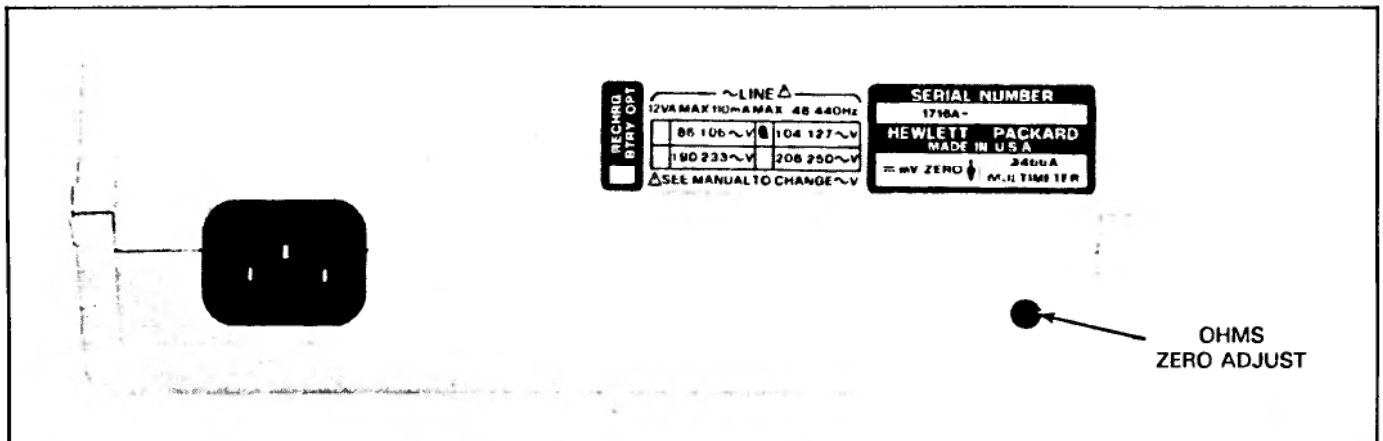

Figure 3-14. Option Decal and Ohms Zero Adjust
- c. Adjust the ohms zero potentiometer (see Figure 3-14 for the potentiometer location) for a 0.000 reading on the display.
3-40. The option decal is affixed to the rear of the Multimeter. An example is shown in Figure 3-14.
- c. Use a small flat blade screwdriver to adjust the 20mV ZERO ADJ on the rear panel (see Figure 3-14) for a 0.000mV reading on the display.